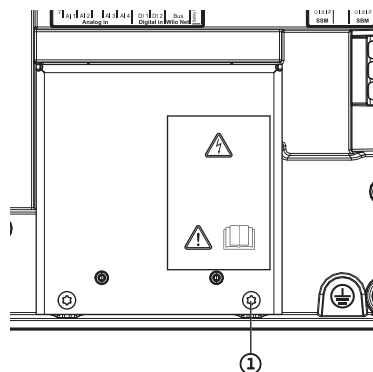

Fig. 113: EMC protective plate
4. Loosen the screws of the EMC protective plate (Fig. 113, Item 1) and remove the protective plate.